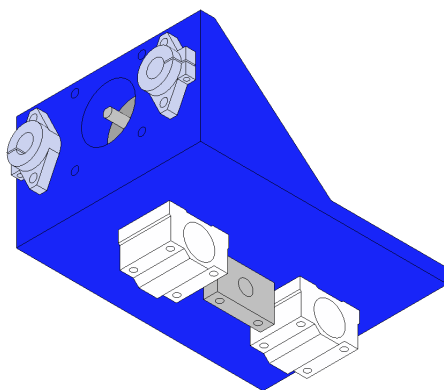

Figure 12: *X-Axis driver* with the linear rod bearings and the nut housing attached.
6. Attach two SC12UU linear rods to the bottom of the *X-Axis driver* using eight (8) M5 screws. Attach the T8 nut housing to the bottom of the element using two (2) additional M4 screws with their corresponding nuts. Attach the T8 nut to the housing using four (4) M2 screws with their corresponding nuts. The assembly status is shown on figure 12.